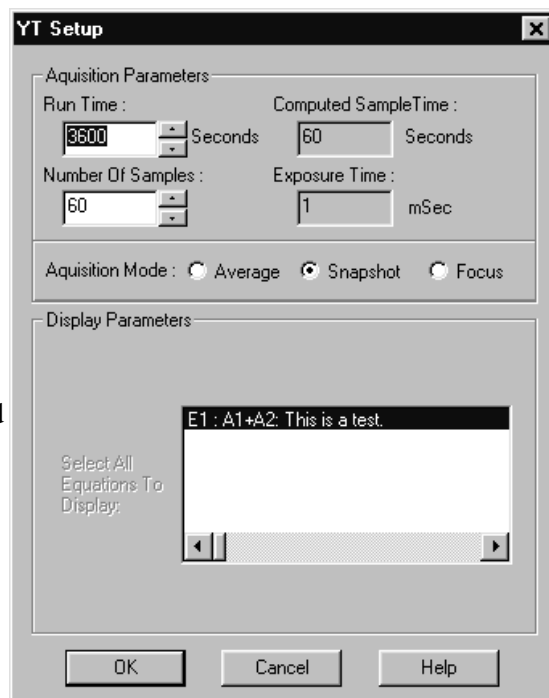

Figure 127. Y:T Setup dialog box
8. Click on **Y:T Setup** to open the **Y:T Setup** dialog box (Figure 127).